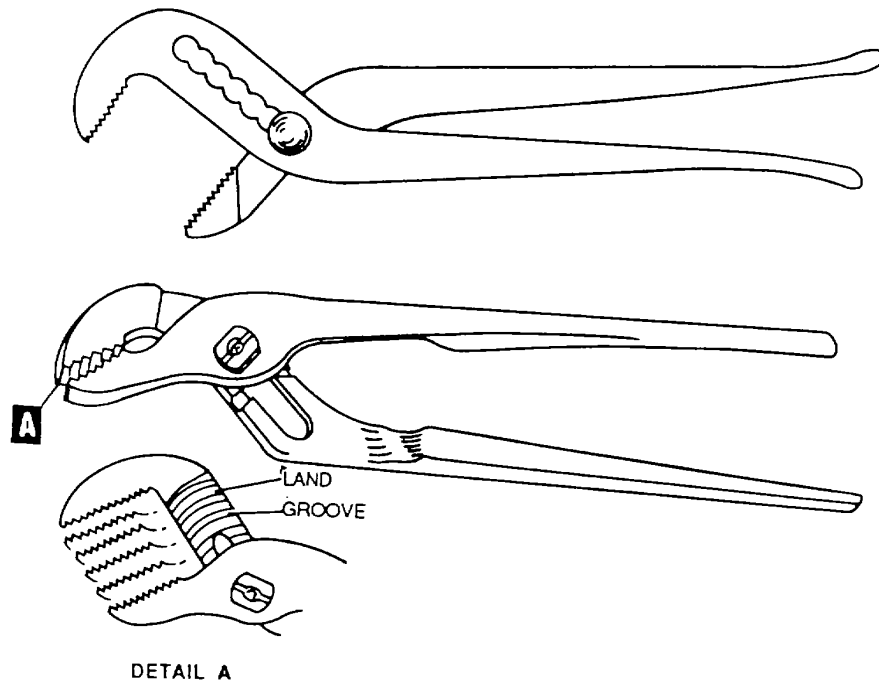

Figure 4-46. Water Pump Pliers
(7) *Water pump pliers.* Water pump pliers, sometimes referred to as channel lock pliers, are used for their powerful grip and ability to adjust to several different sizes. As figure 4-46 shows, there are two adjustment methods used with this type of pliers.